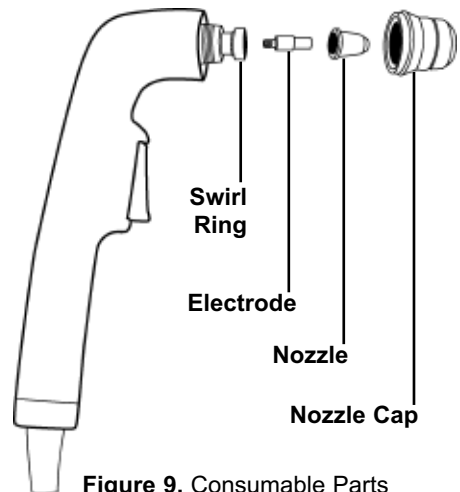

Figure 9. Consumable Parts
4. Replace nozzle cap by firmly turning it clockwise onto torch assembly (refer to Figure 9).
6. Replace nozzle cap by firmly turning it clockwise onto torch assembly (refer to Figure 9).